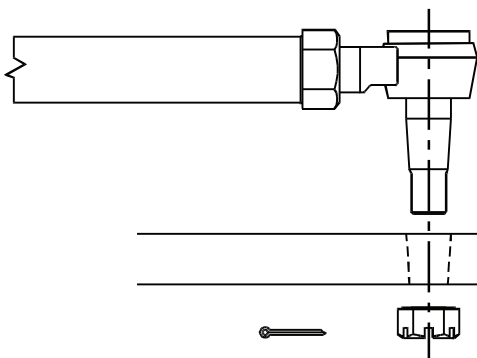

Figure 23 - Drag Link Ball Stud
1. Remove the cotter pins from the ball studs. (See Figure 23)